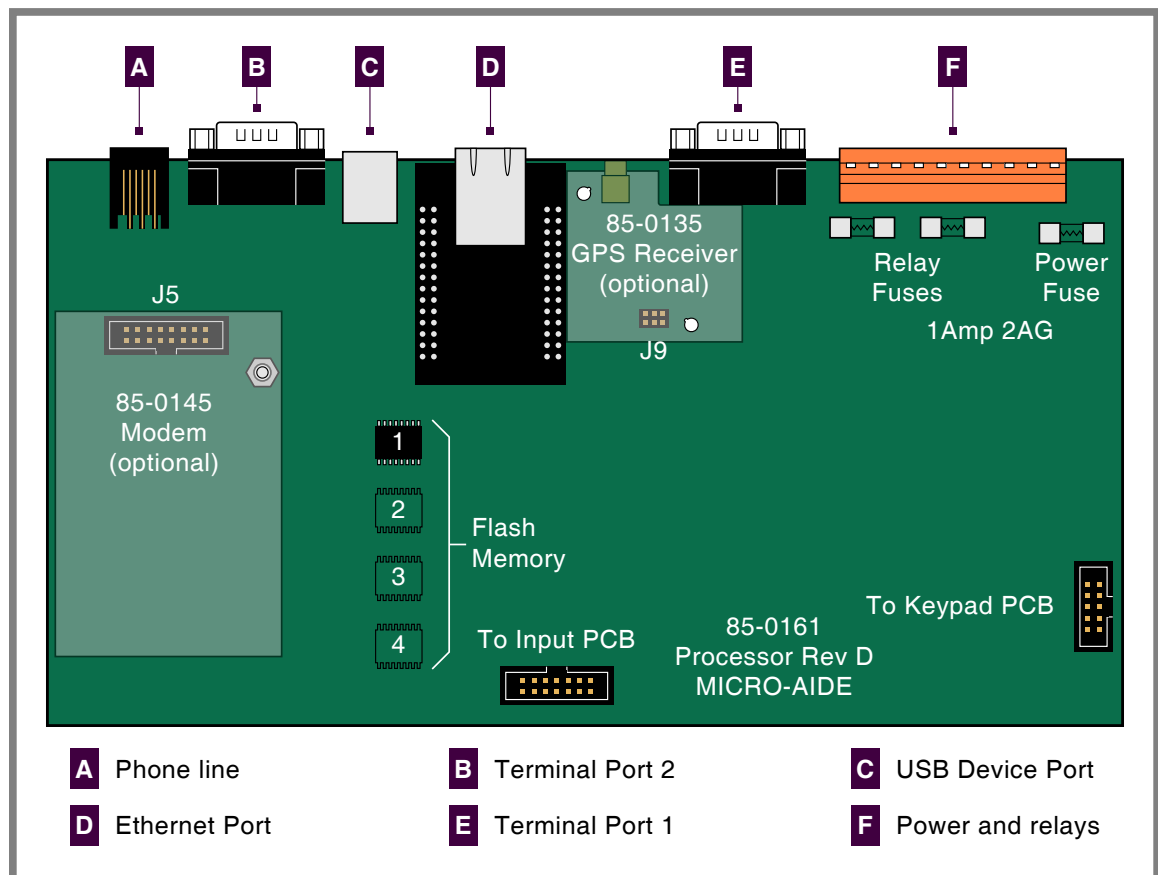

Figure 10: Processor PCB
There are three fuses mounted on the Processor PCB. The fuses are designed to protect the input power source and the contacts of the two output relays. Each are rated at 1 A and conform to the 2AG size standard. Before replacing a fuse the cause of the blown fuse should be ascertained and cleared if possible. The fuses are illustrated in Figure 10 on page 89.
Generally, the GPS Receiver is ordered at the time the recorder is purchased and is pre-installed at the factory. If the receiver was not previously ordered, it can be installed by the user. To install the receiver follow the steps listed in the following. The GPS Receiver PCB is illustrated in Figure 10 on page 89.
3. Locate the 6-pin female socket labeled "J9" near the top-center edge of the Processor PCB. The socket is illustrated in Figure 10 on page 89.
Generally, the modem PCB is ordered at the time the recorder is purchased and is pre-installed at the factory. If the modem was not previously ordered, it can be installed by the user. To install the modem follow the steps listed in the following. The modem is illustrated in Figure 10 on page 89.
2. Locate the 16-pin female socket labeled "J5" along the left edge of the Processor PCB. The socket is illustrated in Figure 10 on page 89.